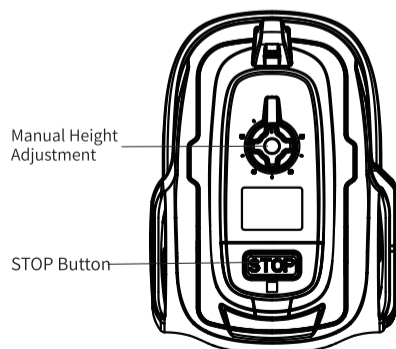

Fig.4-4
- Clockwise rotation to increase the cutting height; counterclockwise to decrease the cutting height (Fig 4-4)